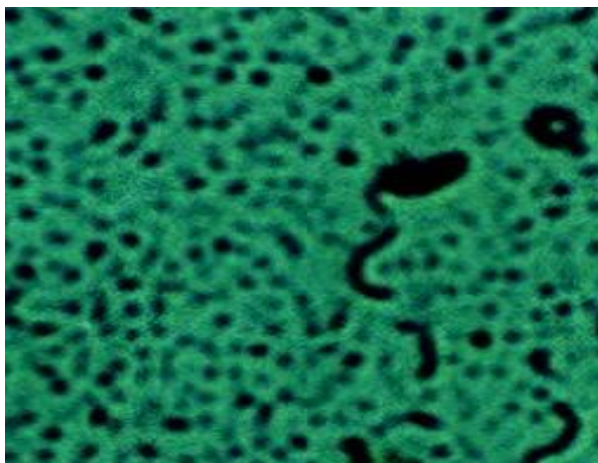

Figure 11: Bacterium having flagellum
**A: Hanging drop method****B: Stabbing****Figure 11: Flagellar staining and Motility Testing**